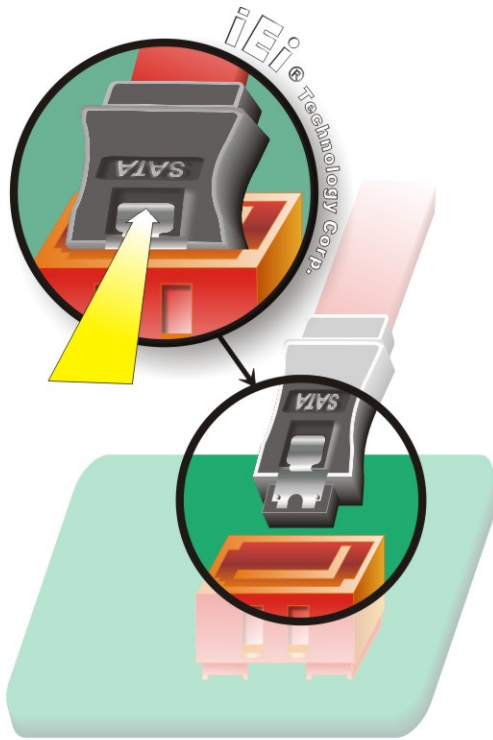

Figure 4-12: SATA Drive Cable Connection
Step 2: Insert the cable connector. Press the clip on the connector at the end of the SATA cable and insert the cable connector into the onboard SATA drive connector. See **Figure 4-12**.